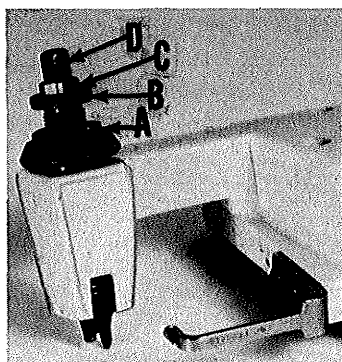

Fig. 2
Sufficient presser foot pressure to feed work uniformly should be maintained. Should it be necessary to increase or decrease amount of pressure on presser foot, loosen lock nut (A, Fig. 2) and turn adjusting screw (B). Adjusting screw has a right hand thread, so tightening increases pressure, loosening decreases pressure. When pressure adjusting screw (B) has been properly set, tighten lock nut (A). With presser foot resting on throat plate, position locking nut (C) so that its under surface is approximately $1/32$ to $1/16$ inch (.79 mm to 1.59 mm) from the top surface of adjusting screw (B). Set cap (D) against locking nut (C).